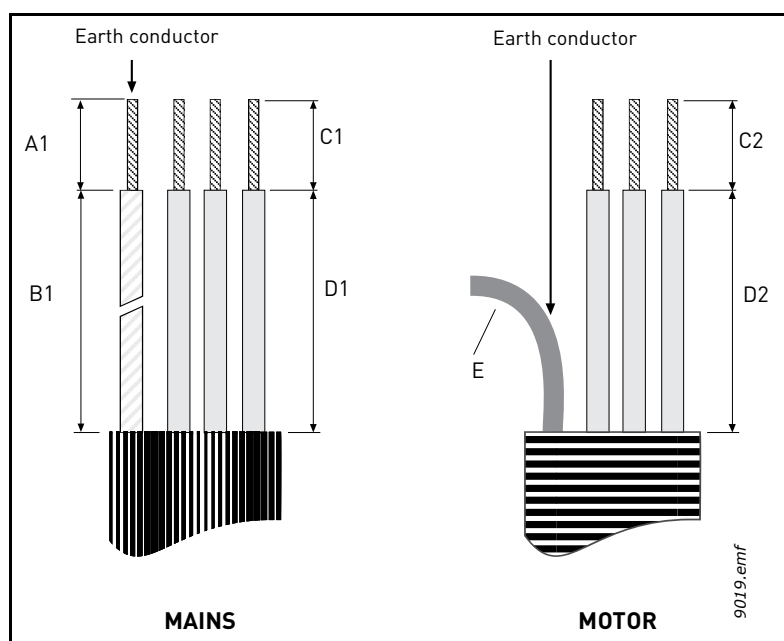
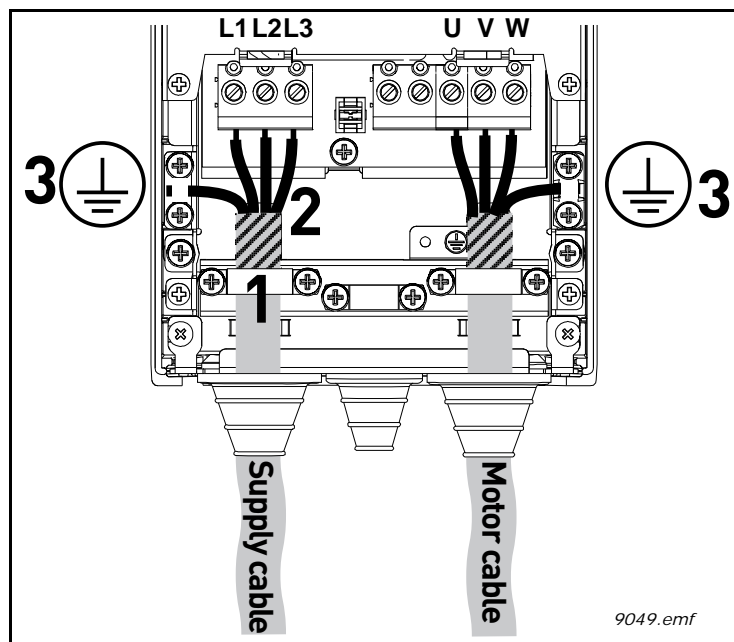

Figure 19. Stripping of cables
Figure 26.
Connect the stripped cables (see Figure 19 and Table 26) as shown in Figure 26.
- Expose the shield of all three cables in order to make a 360-degree connection with the cable clamp (1).
- Connect the (phase) conductors of the supply and motor cables into their respective terminals (2).
- Form the rest of the cable shield of all three cables into "pigtailes" and make a grounding connection with a clamp as shown in Figure 26 (3). Make the pigtailes **just long enough** to reach and be fixed to the terminal - not longer.